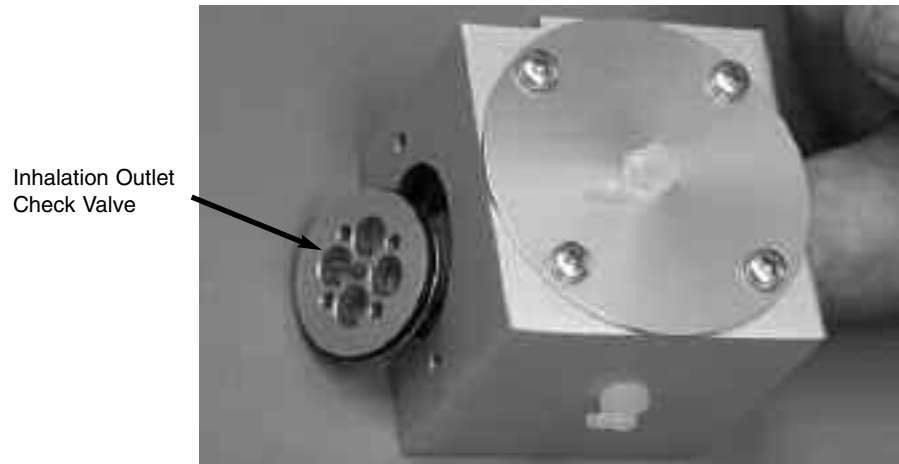

Figure 2-9 Inhalation Outlet Check Valve
- 3 Insert finger and push out the Inhalation Outlet Check Valve, see Figure 2-9.